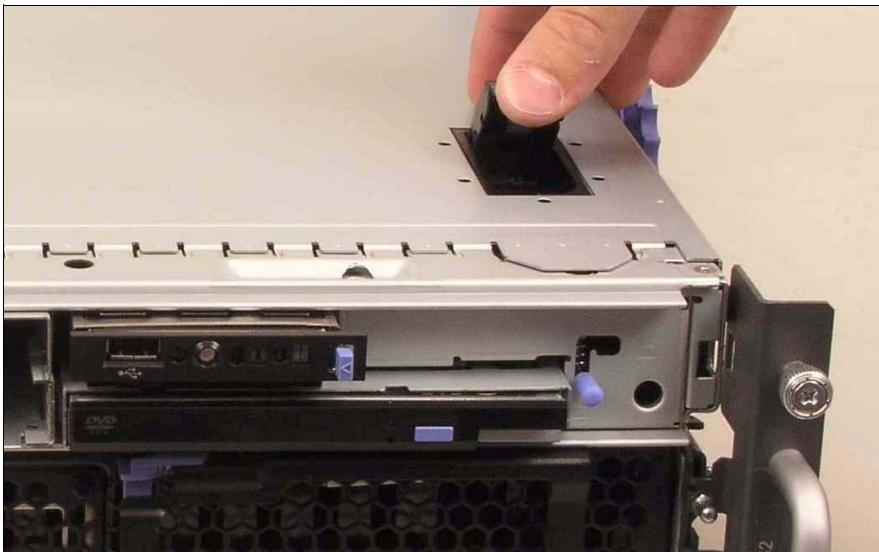

Figure 6: Removing the cover (server front shown without bezel)
- ▶ Lift the cover release latch (see figure 6).